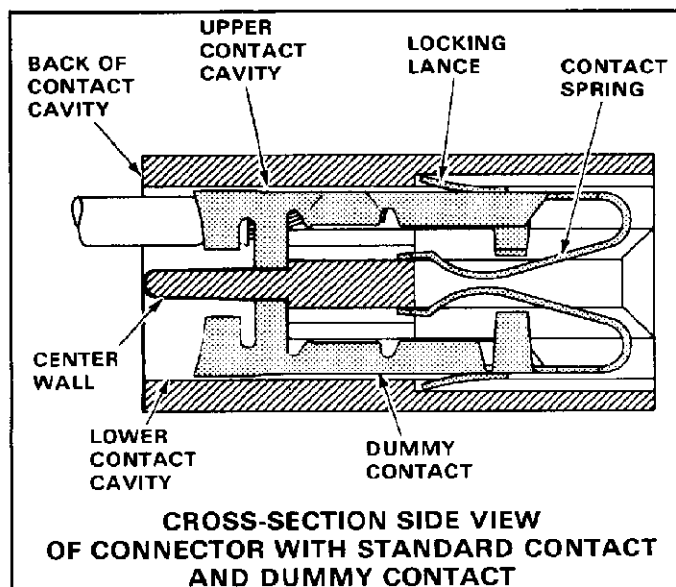

Fig. 2
2. Position contact so the spring is facing the center wall between the upper and lower cavity. See Figure 2.
4. DUMMY CONTACTS (Figure 2)